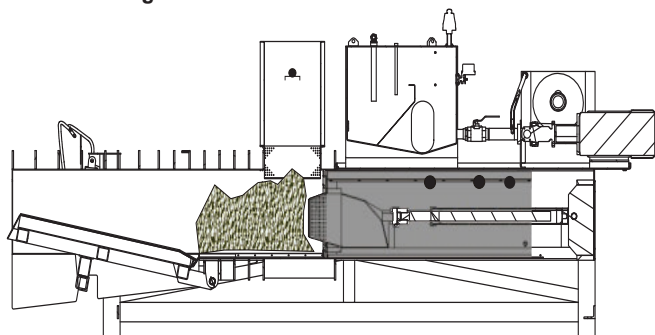

Figure 26 - Plunger Retracts, Product Falls Into Chamber
3. **PRODUCT FALLS INTO CHAMBER** Plunger retracted and the product falls into the chamber. PROX 4, PROX 3 and PROX 2 activated (see Figure 26 Pg. 21).
3. **PRODUCT FALLS INTO CHAMBER** The plunger retracts and the product falls into the chamber. The plunger is fully retracted. **PROX 4**, **PROX 3** and **PROX 2** are activated (see Figure 26).